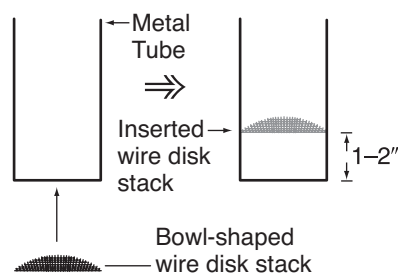

Figure 3.
11. Insert the curved end of the wire disk “stack” into the end of the metal tube, opposite to the label. See Figure 3. Carefully push and “massage” around the edges of the stack evenly in order to slide the disks into the tube so that they remain parallel with the tube opening. (When you look inside the tube, there should be no gaps between the disks’ edges and the wall of the tube.) The friction between the wall of the tube and the edges of the disks should keep them secure inside the tube. If the disks are loose or fall out, remove them and flatten them out slightly to increase their diameter so they fit snugly inside the tube. If the wire disks are pushed in crookedly, use pliers to remove them completely and begin again. Proceed slowly in order to keep the wire disks parallel with the opening of the tube.
12. Once the wire disks are inside the tube opening squarely, slide them down the tube so that they are about 1–2” from the end of the tube. See Figure 3.